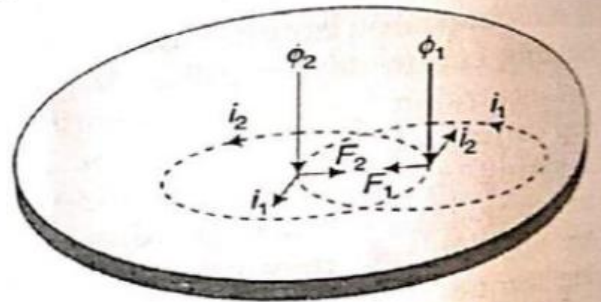
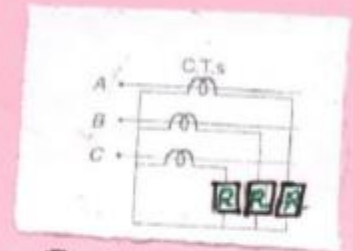

Fig. 2.14 Torque produced in an induction relay
Fig 2.13 Three overcurrent relays
Fluxes  $\phi_1$  and  $\phi_2$  are produced in a disc type construction by shading technique. In watt-metric type construction,  $\phi_1$  is produced by the upper magnet and  $\phi_2$  by the lower magnet. A voltage is induced in a coil wound on the lower magnet by transformer action. The current flowing in this coil produces flux  $\phi_2$ . In case of the cup type construction,  $\phi_1$  and  $\phi_2$  are produced by pairs of coils, as shown in Fig. 2.13. The theory given below is true for both disc type and cup type induction relays. Figure 2.14 shows how force is produced in a rotor which is cut by  $\phi_1$  and  $\phi_2$ . These fluxes are alternating quantities and can be expressed as follows.
- \* Fig 2.13 shows three overcurrent relays for protection of 3 Phase & 1 $\phi$